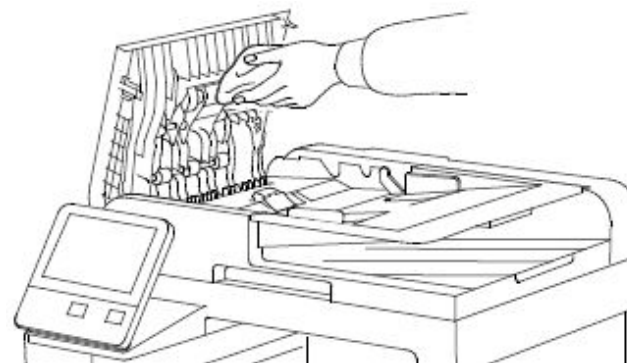

Figure 4 Cleaning the DADF feed rollers
- Wipe the feed rollers with a dry, soft, lint-free cloth or paper towel until the rollers are clean, Figure 4.